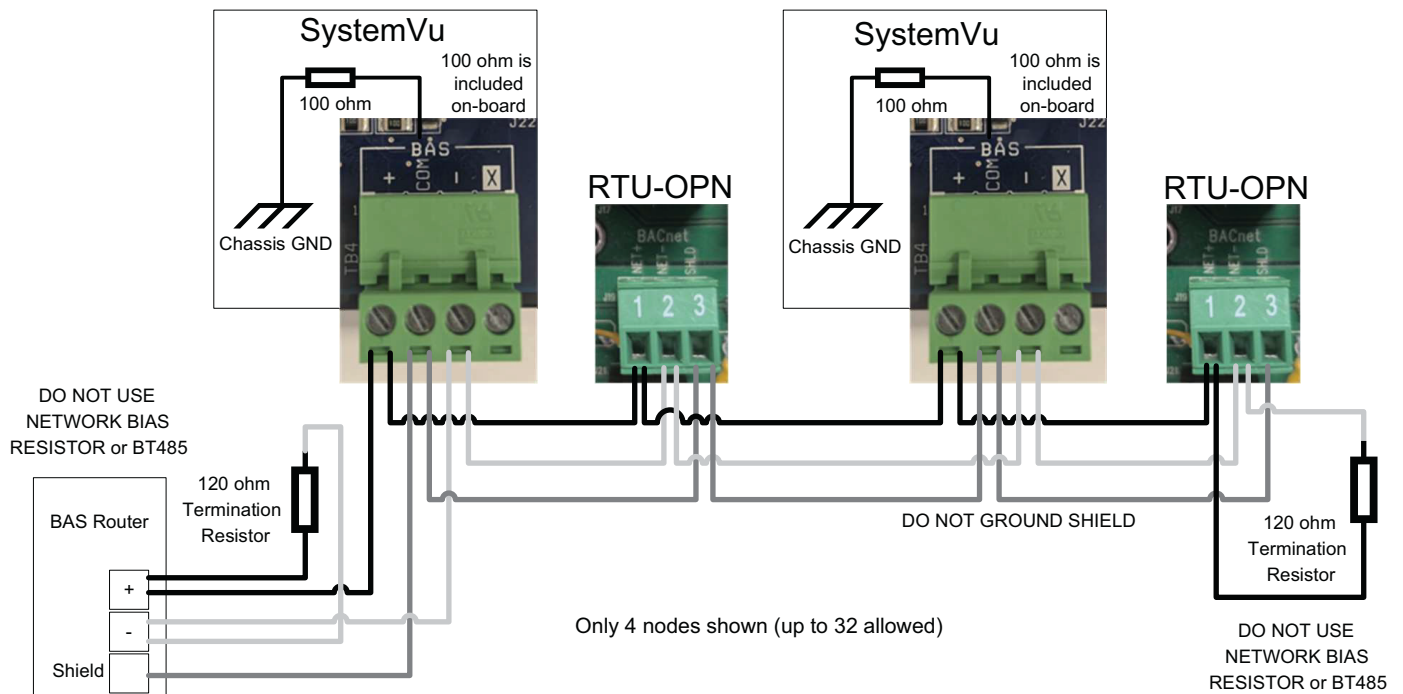

Fig. 7 — BACnet Wiring on Mixed Device Network
4. Insert the wires into the appropriate terminal block (see Fig. 7 and 8 on page 6). Take care the drain wire is electrically isolated, where exposed.
SystemVu controllers should have the BAS wiring connected to plus, minus, and the shield wire to COM as shown in Fig. 7 and 8.